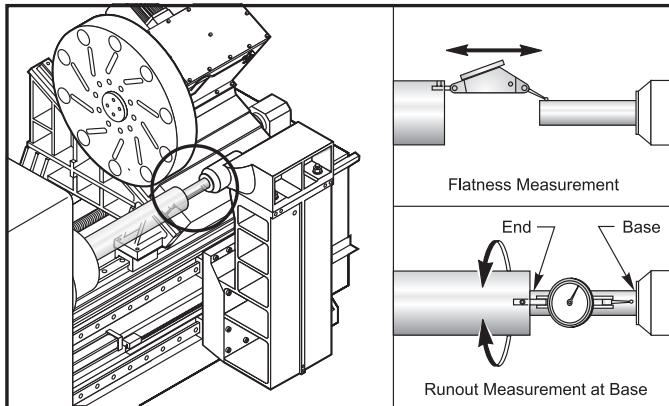

Figure 3.3-2
1. Using a spindle alignment tool and a Morse taper tool, indicate from spindle to tailstock. Measure flatness and TIR (total indicated run-out). Determine which direction the tailstock is out of alignment (Figure 3.3-2).